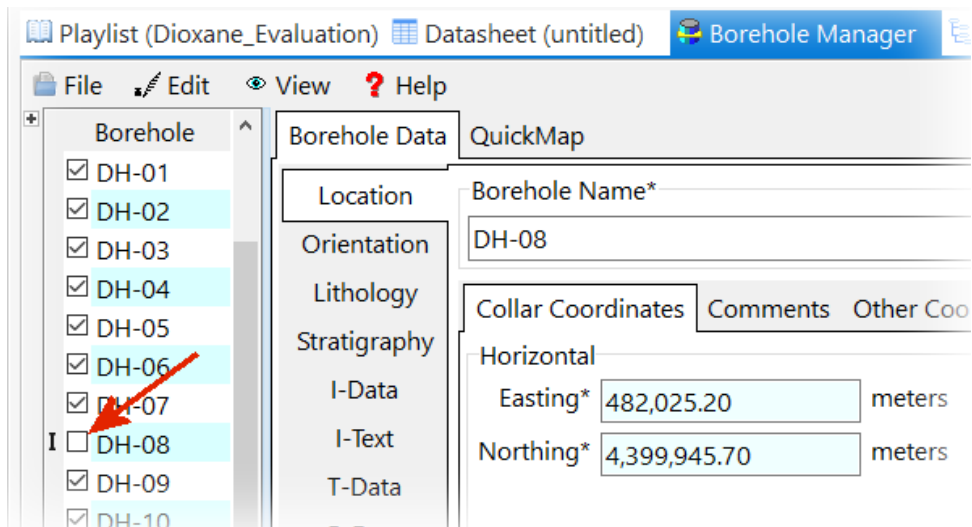

Figure 99
- Click on the *Borehole Manager* (Figure 99) and disable the DH-08 well.